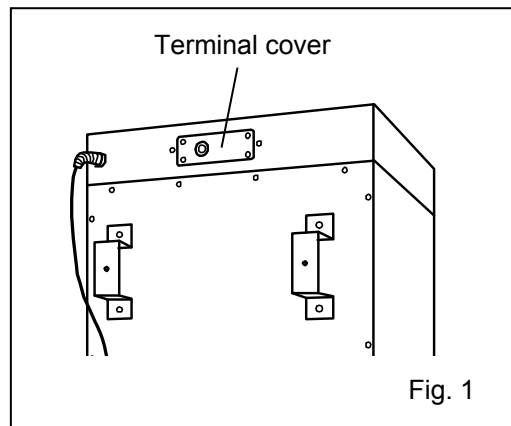

Fig. 1
1. Remove the terminal cover at the top of the back side by unscrewing 4 screws. [Fig.1]
2. Slightly raise the end of the pen lifter and remove from the pen lifter stopper. Then rotate clockwise (until the pen tip is on the pen lifter) as shown in Fig. 1.